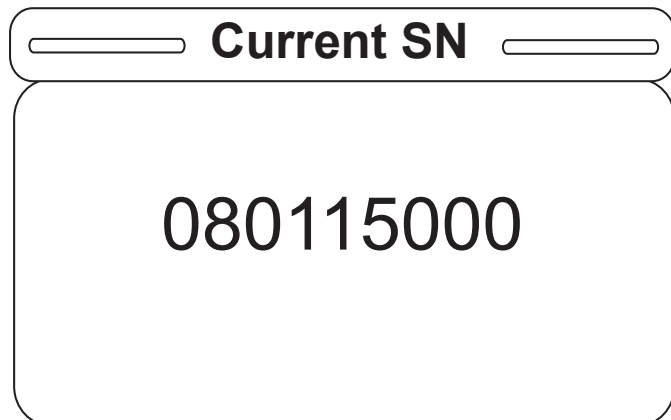

Figure S-30
28. Once a serial number is saved and the user enters the Current SN item, the screen in Figure S-30 will be displayed. The entered serial number will be displayed until the user presses the "Exit" button on the footboard panel.